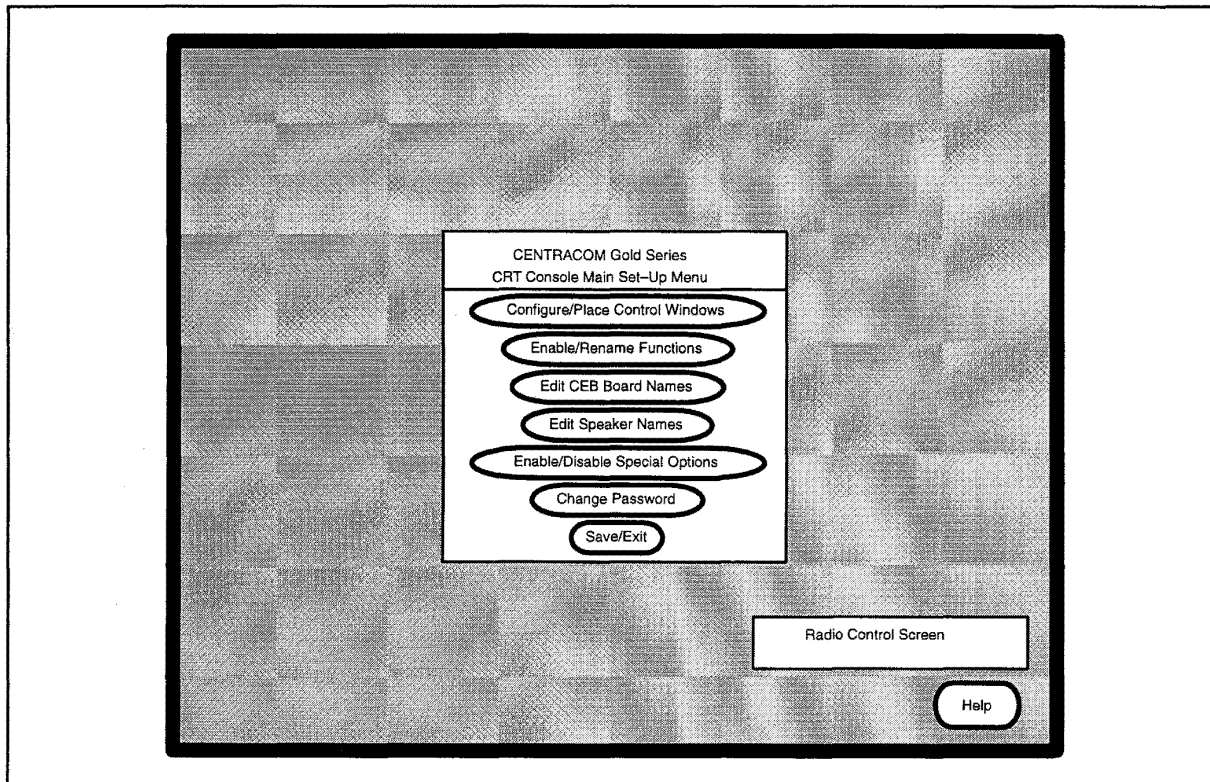

Figure 18. Control Window Display
Step 3. The Main Set-Up menu is displayed on the screen (see Figure 18).